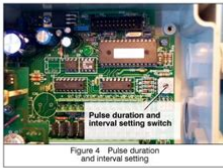
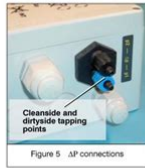

Figure 4 Pulse duration and interval setting
Figure 5 AP connections
Ensure that the switch, on the base PCB, for the pulse duration and the interval between pulses (see Fig. 4) is set to the 'P' position. (For controllers fitted with optional heater, set switch to '0' position).
In order to utilise the AP cleaning option of the IPC (AP) Controller, the cleanside (coloured blue and labelled P1) and dirtyside (labelled P2) tapping points on the controller (see Fig. 5), need to be fitted to the cleanside and dirtyside tappings on the casing of the collector using the tubing supplied.
pressure differential across the filter packs indicates aFor example, aHowever, it is advisable toFilter pack resistance can be checked by connecting a Utube manometer orOnce running, theIt is recommended to periodically inspect the general casing integrity. Do not operate above recommended compressed air pressure. Excessive pressure will reduce the working life of components. Servicing schedule. A record of all pressure checks should be kept in a log book to aid the speedyWeeklyMonthly. Check operation of solenoid and diaphragm valves. It may be necessary to check the operation of the valves while theCare should be taken to avoid injury. If it is found necessary to replace a diaphragm, use the following procedure see. Fig. 4. Use service kit available from Donaldson. AnnuallyIt may be necessary to remove a diaphragm valve for internalFaulty seals must be replaced.
Figure 4 Valve diaphragm replacementUse safety and protective equipment when removing contaminants andDirty filter packs may be heavier than they appear. Use care when removing filter packs to avoid personal injury. Do not drop filter packs. Refer also to Figure 5.Swing door fully open and engageFigure 5. Filter pack replacement CPV4 illustratedExcessive pressureActionIf compressor stopped, rectify compressor fault;If compressor OK, check pulses at manifoldClean filters, dismantle and clean moistureRefer to Fault location table in controller manualEnsure filter pack retainers are fitted securely.Damaged filter packs can be identified by theFor controller specifications refer to Publication 2699. Design pressure. Maximum operatingTest pressure. Design temperature. Maximum rating ofManifold volume. Product of pressureMaterial used forMinimum metalStructural hollow section. To improve corrosion resistance the manifold is painted externally andAtmospheric airWorking compressedNormal operating pressure.PulseMinimumRecommended initial setting; this may be varied with experience. Sizes suitable for runs of pipe up to 30 m 100ft in length. For longer runs consult with Donaldson.Figure 6. Spare parts identificationItem. Description. Part numberInterleuvenlaan 1, B3001 Leuven Heverlee, Belgium. Manufacturing Centres Donaldson Filtration GB Ltd. Humberstone Lane, Thurmaston, Leicester LE4 8HP, England. Kralovsky vrch 1986, 432 01 Kadan, Czech Republic. Customer Service Centre Donaldson Europe B.V.B.A. Pathoekeweg 166, B8000 Brugge, Belgium. Description of the machinery Dust Collector. Brand Donaldson Torit DCE. Description See attached Scope of Delivery. The undersigned, authorized by Donaldson, certifies that the machine described above, providedIMPORTANT! Read the Installation, Operation and Maintenance Manual before using this machine. If you require additional copies contact your local Donaldson representative.